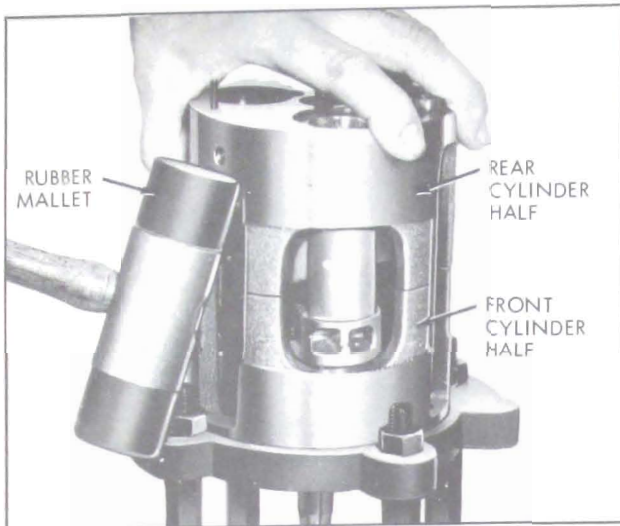

Figure 11-102—Separating Cylinder Halves
5. Separate front and rear cylinder halves, using a wood block or rubber mallet. See Figure 11-102. Rotate swash plate so that discharge tube does not contact it. A 9/16" open end wrench may be used on the shaft seal area of shaft to rotate swash plate.